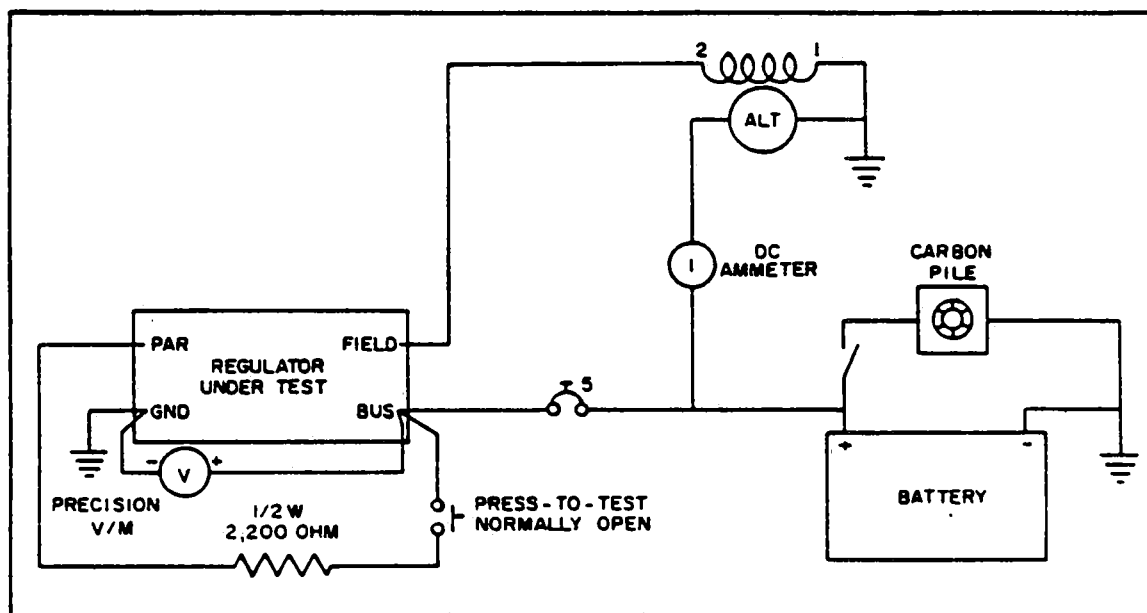

Figure 11-36a. Testing Regulator (LAMAR)
a. The procedure for testing the regulator, whether on the airplane or on the test bench, remains the same. Connect the test meters and regulator wiring as shown in Figure 11-36a.
d. With the connections made as shown in Figure 11-36a, start the engine and adjust its speed to approximately 920 to 1250 RPM to obtain 3,000 to 4,000 alternator RPM. Turn on accessories as needed to establish a 10 to 15 ampere load value. Note that the battery charge current is indicated by the ammeter. Therefore, the current value may change downward at the beginning of a test run. This will be especially true if the battery was used for engine starting.